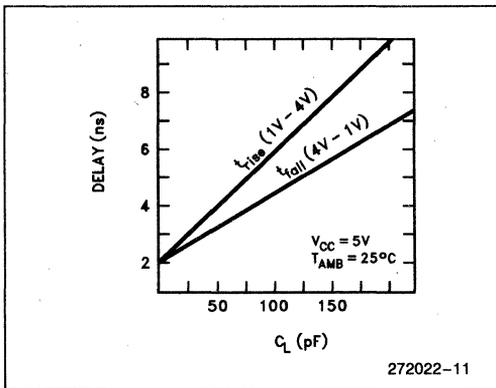

Figure 10. Typical Rise and Fall Variations Versus Load Capacitance
- Specified for a 50 pF load, see Figure 10 for rise and fall times outside 50 pF.
- See Figure 10 for rise and fall times.
5. Specified for a 50 pF load, see Figure 10 for rise and fall times outside 50 pF.
6. See Figure 10 for rise and fall times.